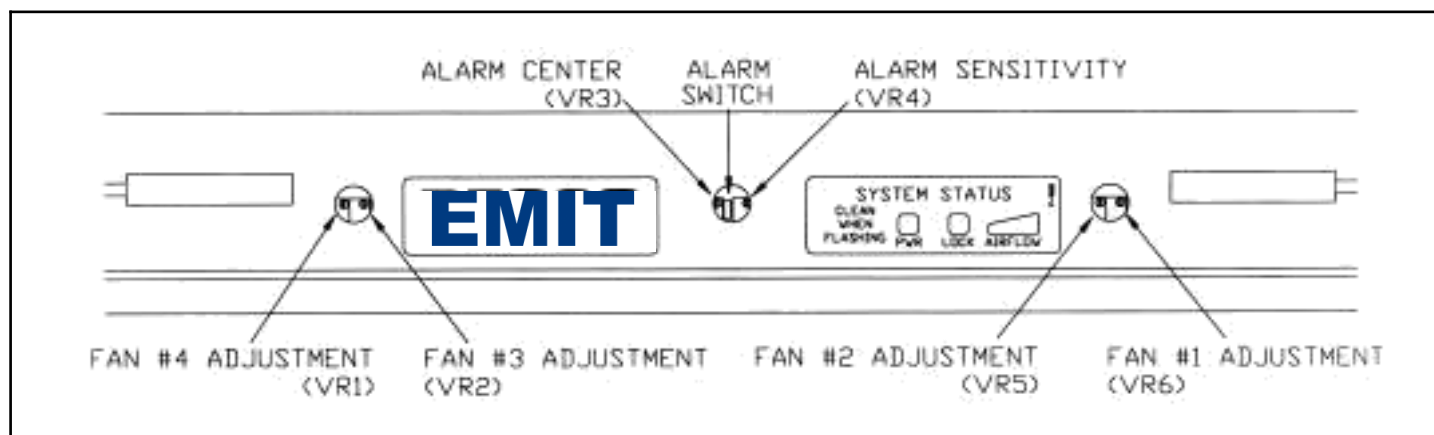

Figure 6. Calibrating C/E Ionizer
See figure 6.
6. See figure 6. For VR (variable resistor) locations. Fans from right to left side are labeled 1 to 4. VR from right to left side are labeled 6, 5, 2 and 1. So if you have the CPA under fan 1, you are going to adjust VR6. Adjust VR6 so balance on CPA reads 0Volts @ +/-15Volts. Move the CPA from fan 1 to next fan, fan 2 and adjust VR5 to 0Volts @ +/-15Volts, repeat these set for all fans. All fans should be at 0Volts @ +/- 15Volts.